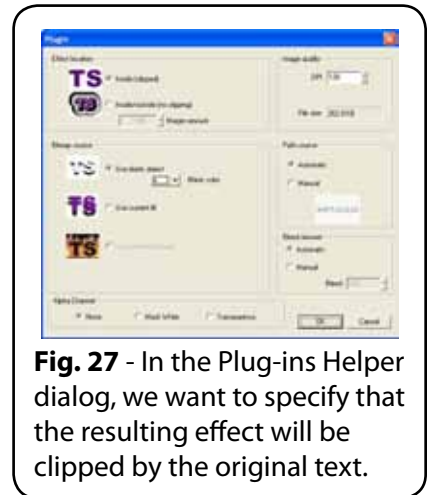

Fig. 27 - In the Plug-ins Helper dialog, we want to specify that the resulting effect will be clipped by the original text.
23. The **Plug-ins Helper** dialog will open (Fig. 27). Use the following settings: